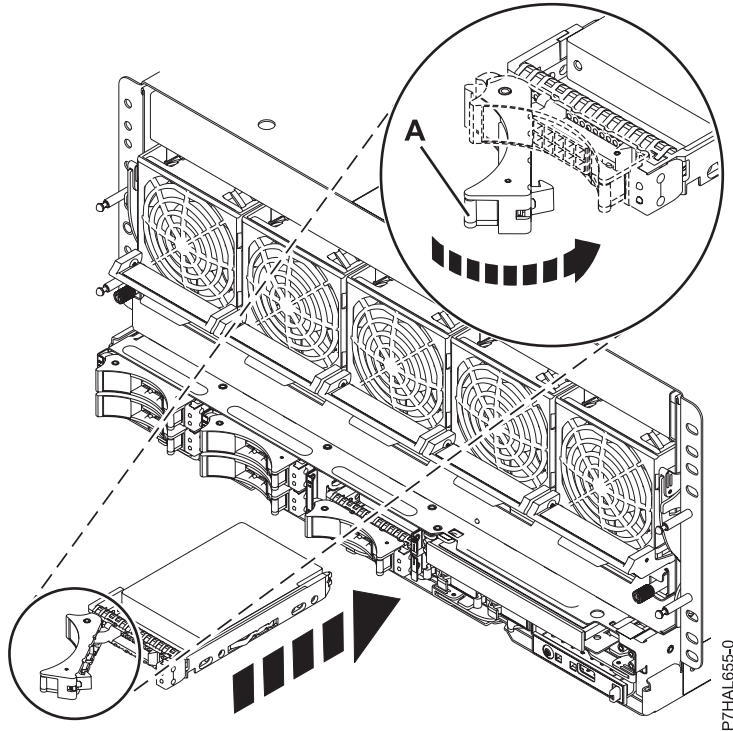

Figure 36. Replacing a disk drive in the system
7. When the identify LED turns on solid, slide the disk drive or solid-state drive all the way into the system or an expansion unit, and push the drive handle **(A)** in until it locks, as shown in Figure 36 on page 56.